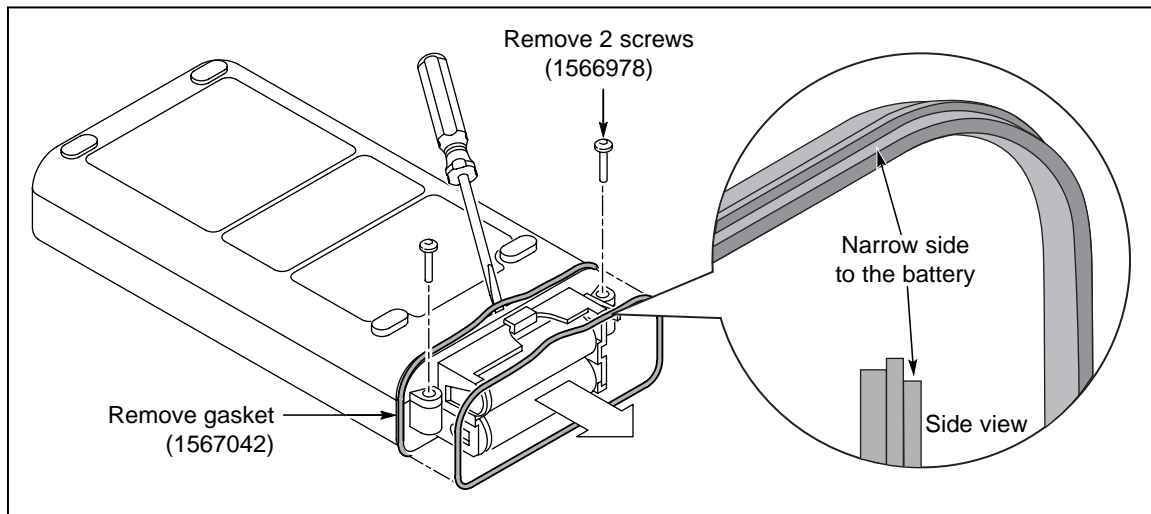

Figure 1. Opening the Case
To open the Meter case (refer to Figure 1):
5. Reinstall the rubber gasket. It is important to reinstall it in the proper direction. Refer to Figure 1.